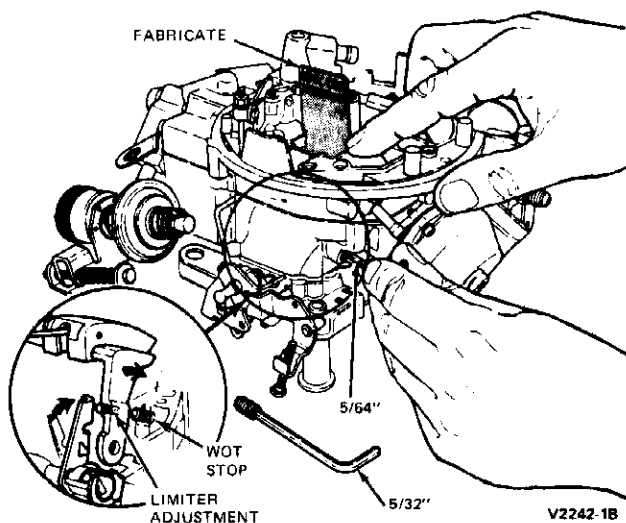

FIG. 23 Venturi Valve Limiter Adjustment
4. Using an allen wrench, remove the venturi valve wide open throttle stop screw (Fig. 23).